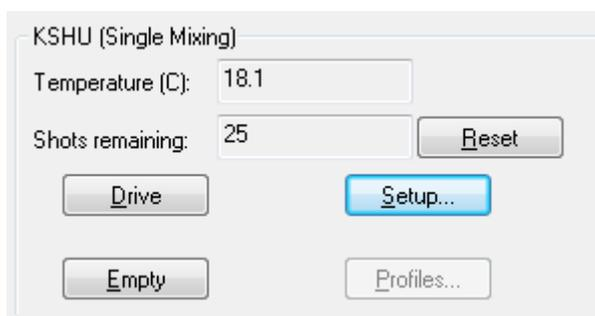

Figure 2.17: the KSHU panel for fluorescence kinetics
6) Samples may now be loaded in the drive syringes. Ensure that the drive valves are in the 'drive' position and click the **Drive** button on the **KSHU** panel (Figure 2.17) to push sample through the system without collecting data. Click the **Drive** button five times so that the samples will have reached the observation cell.